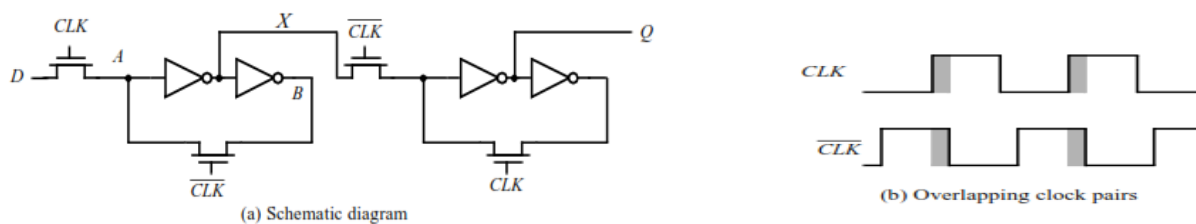

Figure 3.11 Master-slave register based on NMOS-only pass transistors.
- This effect, known as clock skew is a major problem and causes the two clock signals to overlap as is shown in Figure 3.11 b.
- Clock-overlap can cause two types of failures, as illustrated for the NMOS-only negative master-slave register of Figure 3.11 a.